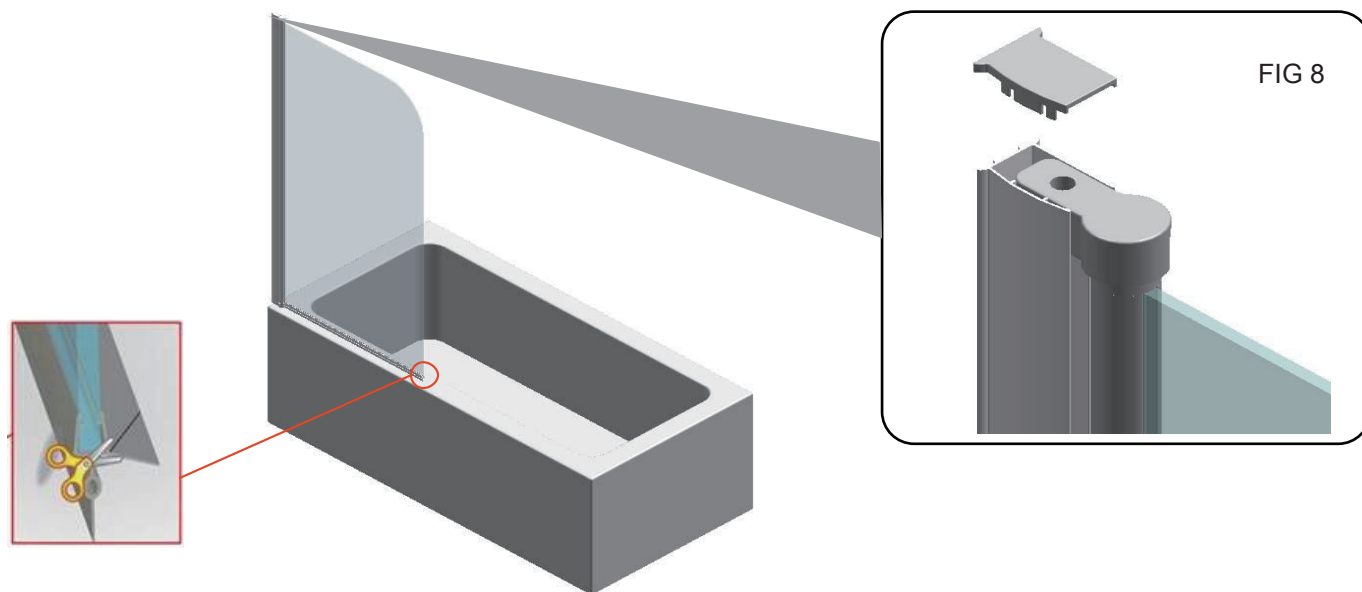

FIG 8
8. Fix the wall profile cover **MOBY002L/R**. FIG 8